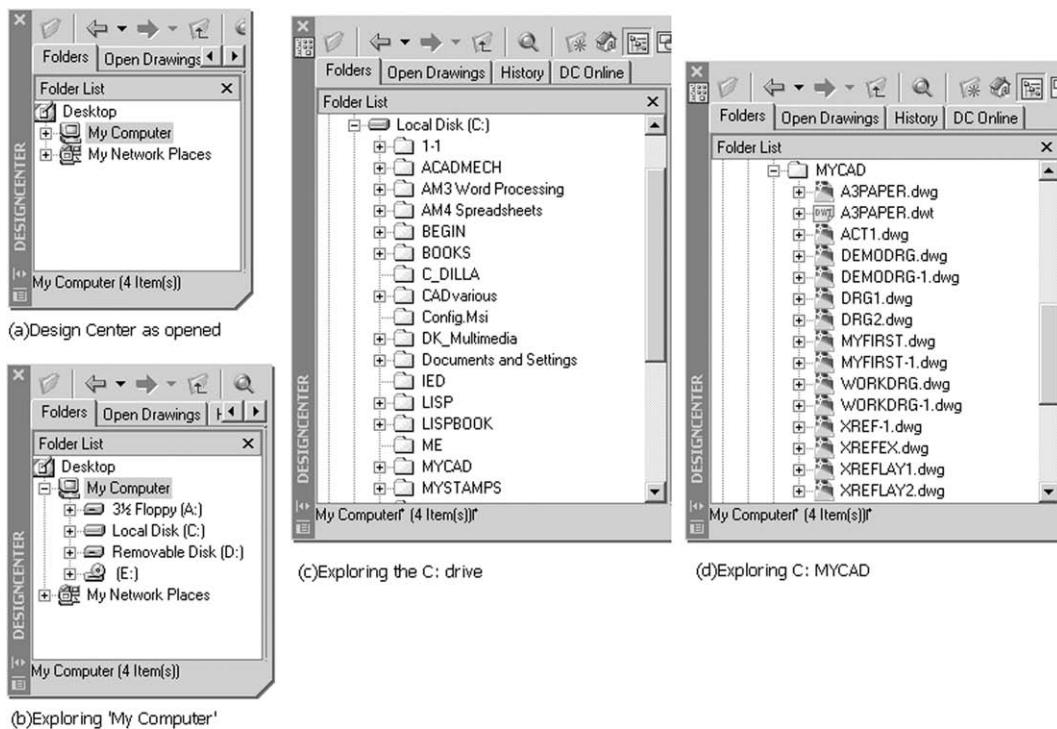

Figure 31.2 Exploring the tree side of the Design Center.
- Refer to Figure 31.2 and:
- a) note the Design Center layout as opened – Figure 31.2(a). Any display difference is not important
- b) explore My Computer (if available) by picking the (+) to give a tree expansion similar to Figure 31.2(b)
- c) explore the C: drive by selecting the (+) to give the folders on the C drive of your system – Figure 31.2(c). This will probably differ to what I have displayed
- d) explore C:\MYCAD by selecting the (+) to give a listing of the files you have saved, similar to Figure 31.2(d)
- e) note that Figure 31.2 only displays the tree view side of the Design Center. This was to ensure that all the displays 'fitted' into a single layout
- collapse My computer and the Design Center should be displayed ‘as opened’ – Figure 31.2(a).